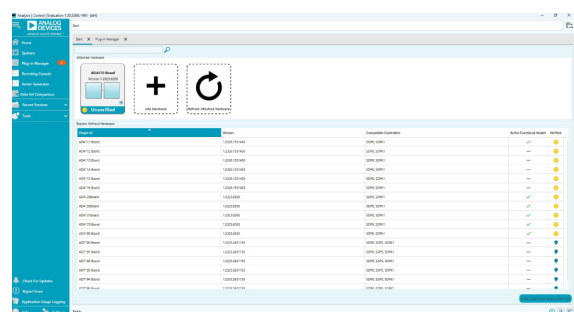

Figure 7. AD4170-4 Evaluation Board in ACE
6. The ACE software must be able to detect the EVAL-AD4170-4ARDZ board as shown in Figure 7.